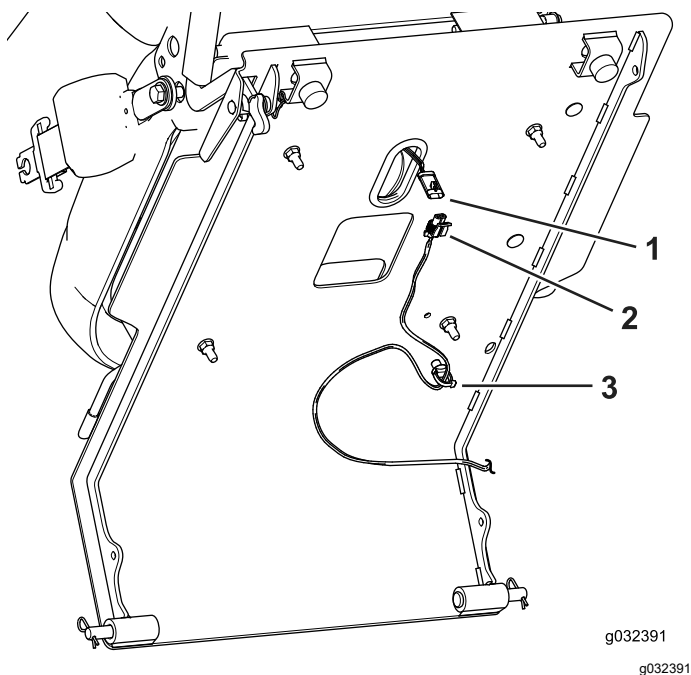

Figure 5
2. Disconnect the seat-switch on the bottom of the seat deck from the wire harness (Figure 5).
3. Remove the wire clip from the bottom of the seat deck Figure 5.